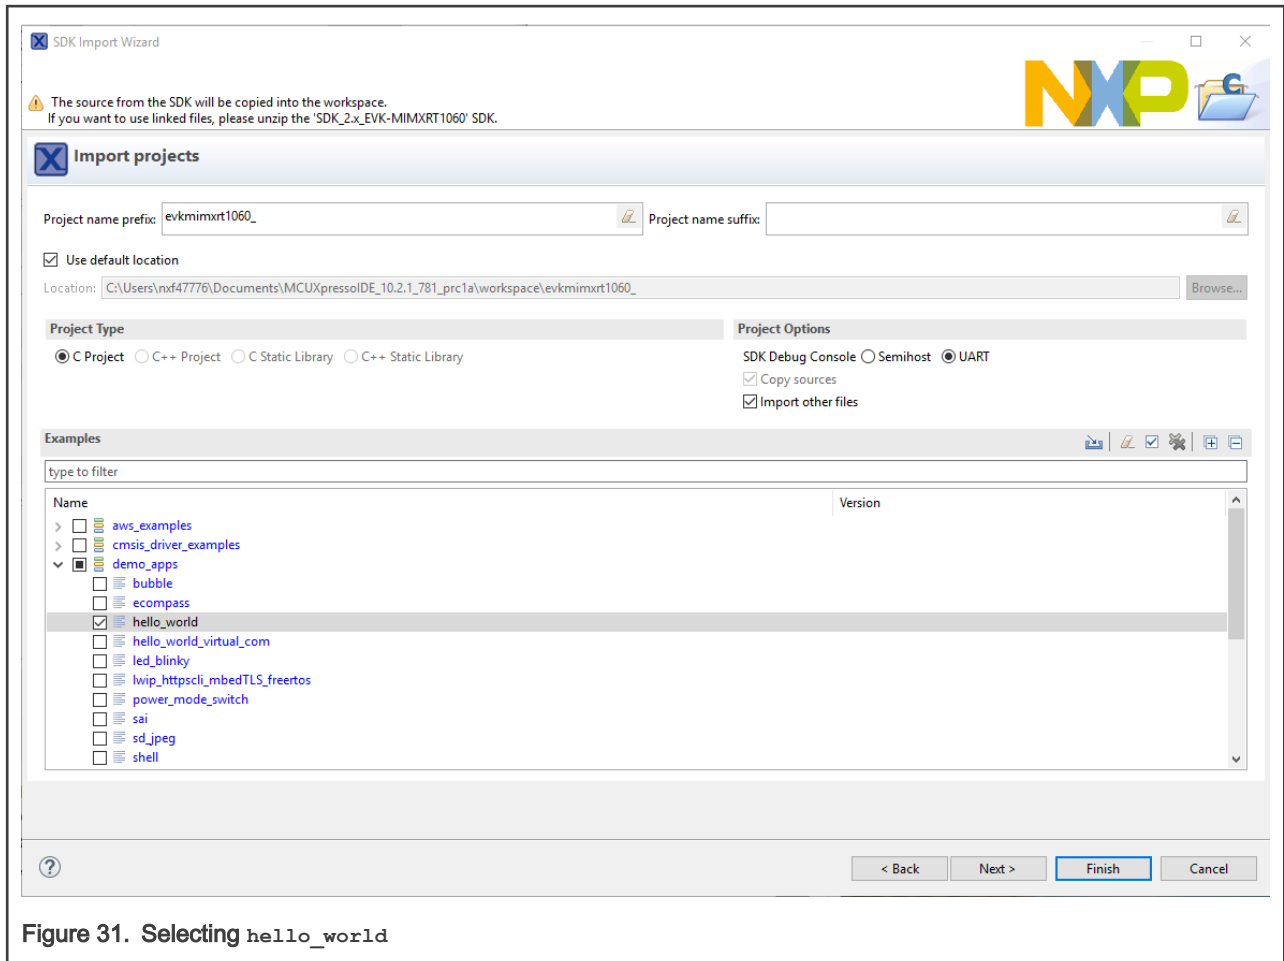

Figure 31. Selecting `hello_world`
4. Expand the `demo_apps` folder, select `hello_world`, and then click **Next**, as shown in Figure 31.